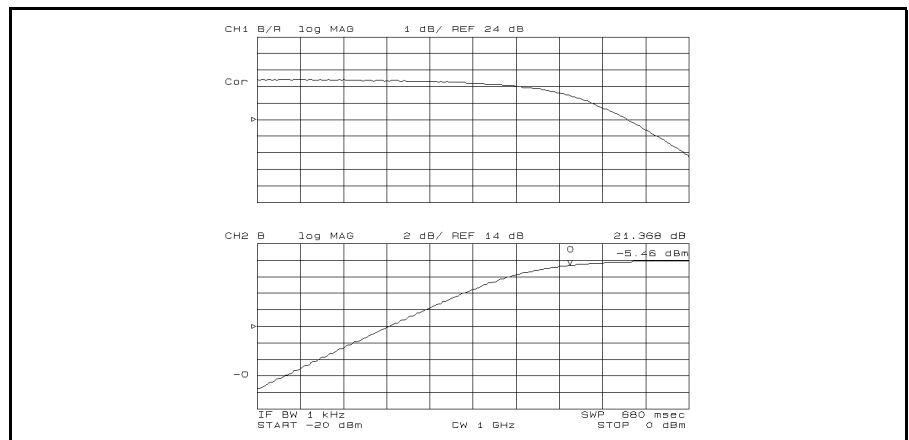

Figure 5-24.
7. Press **(Display)** DUAL CHAN on OFF to ON off to display both channel (see Figure 5-24). Note that you must subtract 3 dB from the input value readout. This is necessary because the input signal is attenuated by the power splitter that is between the RF OUT and the DUT.